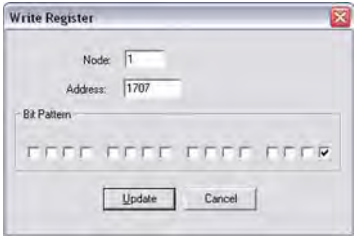

Fig. 240: Write register - clear event history
- ⇒ Fig. 240 shows how bit 0 is enabled using the Mod-Scan32 Software.